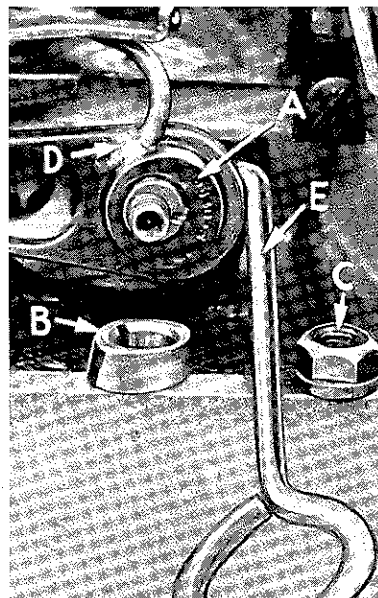

Fig. 14
In assembling feed eccentric (A, Fig. 14), be sure hubs side of eccentric is placed on right. Hub side of feed eccentric spacer and oil slinger (B) should be to the left. Use care in passing under oil tube (D) to avoid loosening from its position. Be careful not to damage shaft or key. Tighten nut (C) securely. Be sure wool yarn in oil tube (D) touches feed eccentric spacer and oil slinger (B).